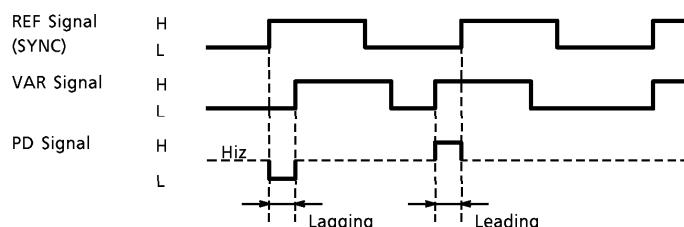

Fig.4 Example of Phase-Difference Output Timing
A phase-difference (PD) signal between the REF and VAR signals are output from the PD terminal the PD signal as shown in Figure 4 below.
The 16bit/24bit serial data input/output channel clocks (LR, ELRI0~1 and ELRO0~2) and bit clocks (FS64, FS32, EBCI0~1 and EBCO) can be either internally generated or externally input. The mode setting is effected by the microcontroller interface (control register). Figure 4 shows the data input/output clock pulse selector.